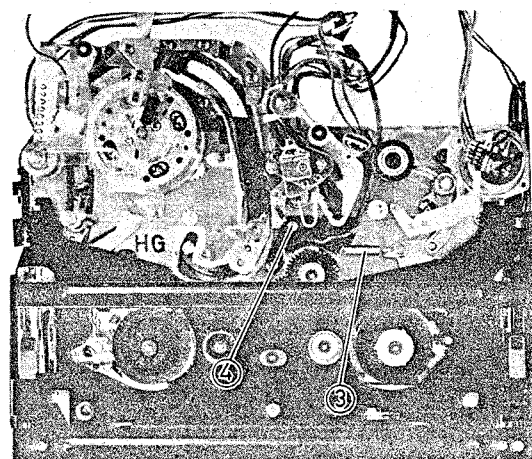

Fig. 2-81 End Lamp Removal
3. Remove the spring between the chassis and end lamp. (See Fig. 2-81)
4. Remove one (1) screw holding the end lamp.